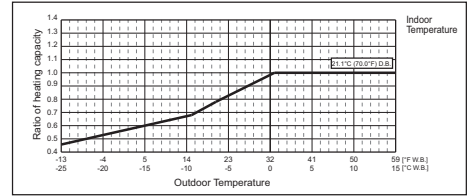

Figure 5 Outdoor unit temperature correction
(5) Outdoor Unit Correction Calculation
- Outdoor Design Wet Bulb Temperature Correction (35.6°F) **1.0 (Refer to Figure 5)**